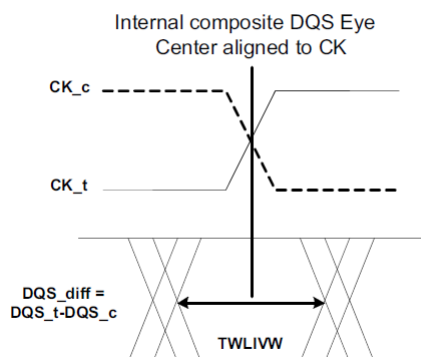

Figure 25. DQS\_t/DQS\_c to CK\_t/CK\_c timings at the DRAM pins referenced from the internal latch
- 28) tWLIW is defined in a similar manner to tdlVW\_Total, except that here it is a DQS input valid window with respect to CK. This would need to account for all VT (voltage and temperature) drift terms between CK and DQS within the DRAM that affect the write-leveling input valid window. The DQS input mask for timing with respect to CK is shown in Figure 25. The "total" mask (tWLIW) defines the time the input signal must not encroach in order for the DQS input to be successfully captured by CK with a BER of lower than tbd. The mask is a receiver property and it is not the valid data-eye.